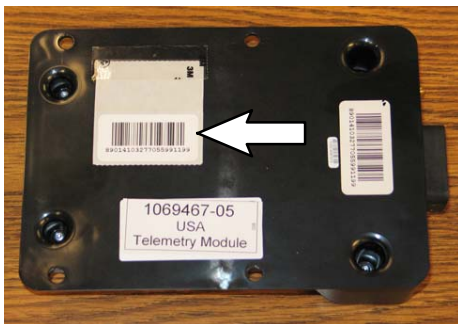

FIG. 3
3. Remove the additional SIM bar code label from the back of the telemetry control box (1) and set label aside in a safe place. The number on the SIM label will be needed to activate the telemetry system. (FIG. 3)